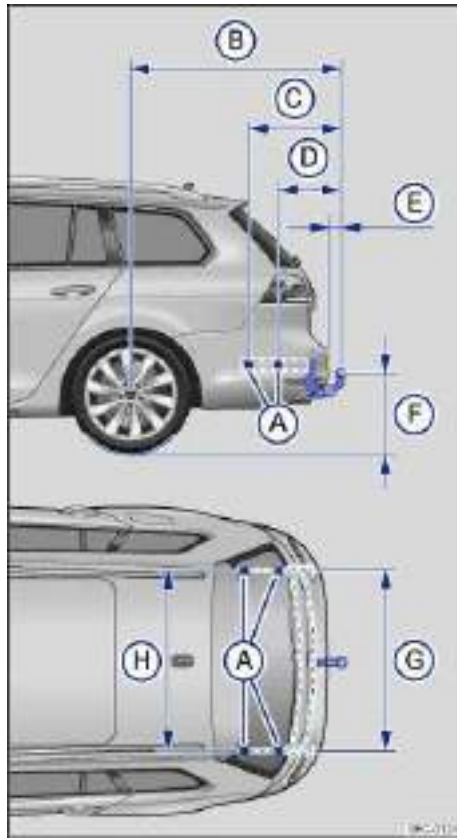

Fig. 104 Dimensions and attachment points for retrofitting a trailer hitch.
⇒ **fig. 104 (F)** be less than the specified minimum. This minimum height must be present even when the vehicle is fully loaded and subject to the maximum tongue weight.
Distance dimensions ⇒ **fig. 104:**